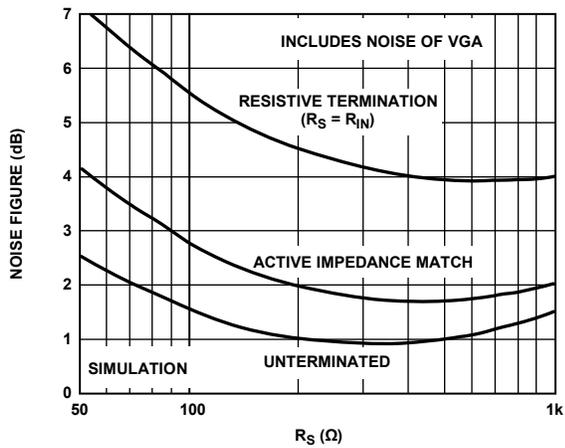

Figure 37. Noise Figure vs. R_s for Resistive, Active Matched and Underterminated Inputs, Gain = 1 V
The primary purpose of input impedance matching is to improve the system transient response. With resistive termination, the input noise increases due to the thermal noise of the matching resistor and the increased contribution of the LNA's input voltage noise generator. With active impedance matching, however, the contributions of both are smaller than they would be for resistive termination by a factor of $1/(1 + \text{LNA Gain})$. Figure 37 shows the relative noise figure (NF) performance. In this graph, the input impedance was swept with R_s to preserve the match at each point. The noise figures for a source impedance of 50 Ω are 7.1 dB, 4.1 dB, and 2.5 dB for the resistive, active, and unterminated configurations, respectively. The noise figures for 200 Ω are 4.6 dB, 2.0 dB, and 1.0 dB, respectively.